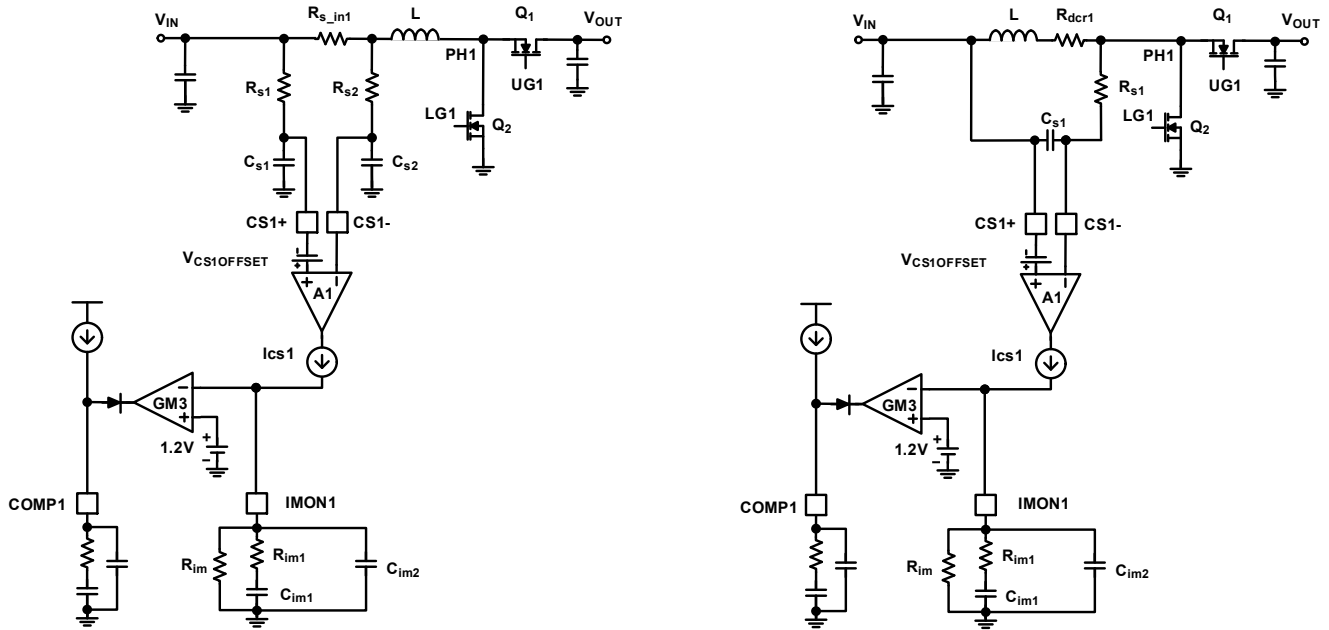

Figure 31. Input Average Current Monitoring and Regulation Loops
The ISL81807 has two current-sense amplifiers (A1 and A2) that monitor the input current of both channels. Figure 31 (A) shows the ISL81807 Channel 1 current shunt sense and monitor circuit, which is identical to Channel 2. The voltage signal on the current sense resistor R_{S_IN1} is sent to the differential input of CS1+/CS1-, after the RC filters R_{S1}/C_{S1} and R_{S2}/C_{S2} . Renesas recommends using a 1 Ω value for R_{S1} and R_{S2} , and a 10nF value for C_{S1} and C_{S2} to effectively damp the switching noise without significantly delaying the current signal or introducing too much error by the op-amp bias current. The A1 amplifier converts the current sense voltage signal to the current signal I_{CS1} .
Figure 31 (B) shows the ISL81807 Channel 1 inductor DCR current sense and monitor circuit. R_{DCR} plays the same role as R_{S_IN} in the shunt current sense circuit. Renesas recommends keeping $R_{S1} \times C_{S1} = L/R_{DCR}$. To minimize the error caused by the A1 input bias current, Renesas recommends keeping R_{S1} less than 10k.
When DE mode is set, the Channel 1 and 2 boost sync FET driven by UG1 and UG2 are all running in DE mode. The inductor current is not allowed to reverse (discontinuous operation) depending on the zero-cross detection reference level V_{CROSS1} for Channel 1 and V_{CROSS2} for Channel 2 sync FET. At light-load conditions, the converter goes into diode emulation. When the load current is less than the level set by $V_{IMON1BSTEN}$ or $V_{IMON2BSTEN}$ typical 0.815V on the IMON1 or IMON2 pin, the Channel 1 or 2 enters Burst mode. Equation 9 sets the Burst mode operation enter condition for Channel 1 (see Figure 31). The same equation also applies to Channel 2.
As shown in Figure 31 in Input Average Current Monitoring and Regulation Loops as an example, the inductor peak current is sensed by the shunt resistor R_{S_IN} and amplifier A1 for Channel 1. For both Channel 1 and 2, when the voltage drops on R_{S_IN} and reaches the set point $V_{OCSET-CS}$ typical 82mV, the low-side FET is turned off. The first level peak current limit set point I_{OCPP1} is calculated using Equation 12.
In cases of OVP protection, the inductor current becomes too negative. For the Channel 1 example, the negative current is sensed by the shunt resistor R_{S_IN1} and amplifier A1 as shown in Figure 31. When the voltage drops on